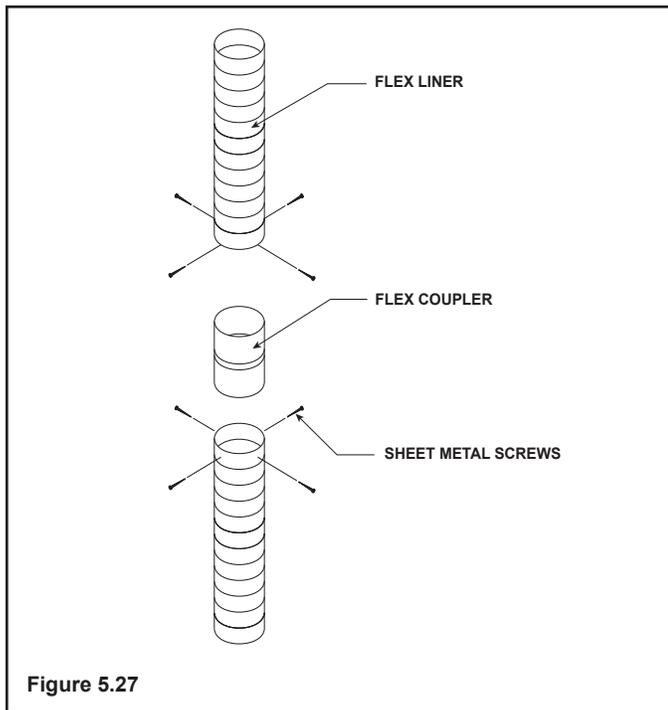

Figure 5.27
7. If additional lengths of flex liner are needed to span the chimney height, use a flex coupler to connect the pieces of flex liner together. Connect the flex to the coupler by using four sheet metal screws for each side (Figure 5.27, on the next page).